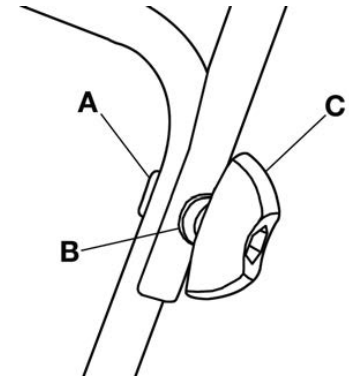

FIGURE 5
2. Insert the joint fixing bolt (A) Fig.5 into the aligned holes on each side. Place washers (B) on the joint fixing bolts outside of the frame as shown.